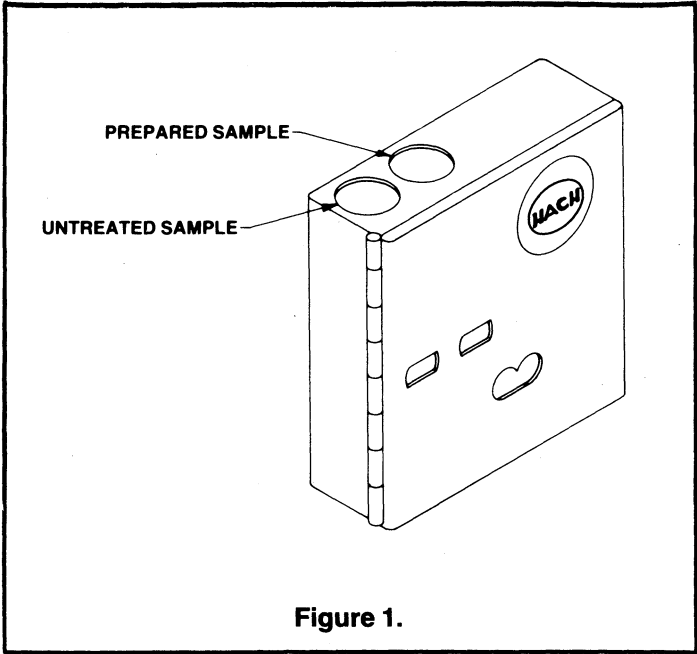

Figure 1.
6. Insert the tube of prepared sample into the right top opening of the color comparator (Prepared Sample Position in Figure 1).
7. Rinse the unoxidized cadmium metal from the color viewing tube used in Step 2. Fill to the mark with the original water sample and place in the left top opening of the comparator (Untreated Sample Position in Figure 1).
8. Hold the comparator up to a light source such as the sky, a window or lamp and view through the openings in front. Rotate the disc to obtain a color match. Read the mg/L nitrate nitrogen (N) through the scale window. To obtain the results as mg/L nitrate ( $\text{NO}_3$ ) multiply the reading on the scale by 4.4.
7. Insert the tube containing the prepared sample into the right top opening of the color comparator (Prepared Sample Position in Figure 1).
8. Rinse the unoxidized cadmium from the color viewing tube used in Step 2. Fill to the mark with the original water sample. Place this tube in the left top opening of the comparator (Untreated Sample Position in Figure 1).
9. Hold the comparator up to a light source such as the sky, a window or lamp and view through the openings in front. Rotate the disc to obtain a color match. Read the mg/L nitrate nitrogen (N) through the scale window. Multiply that reading by 10 to obtain the mg/L nitrate nitrogen (N) present in the sample. To obtain the results as mg/L nitrate ( $\text{NO}_3$ ) multiply the mg/L nitrate nitrogen (N) by 4.4.
3. Insert the tube containing the prepared sample into the right top opening of the comparator (Prepared Sample Position in Figure 1).
4. Fill a second viewing tube to the mark with the original water sample. Insert this tube into the left top opening of the comparator (Untreated Sample Position in Figure 1).
5. Hold the comparator up to a light source such as the sky, a window or lamp and view through the openings in front. Rotate the disc to obtain a color match. Multiply the scale reading by 0.53 to obtain the mg/L nitrite nitrogen (N).
6. Subtract the mg/L nitrite nitrogen (N) from the total mg/L nitrate nitrogen (N) value to obtain the exact mg/L nitrate nitrogen present in the sample.